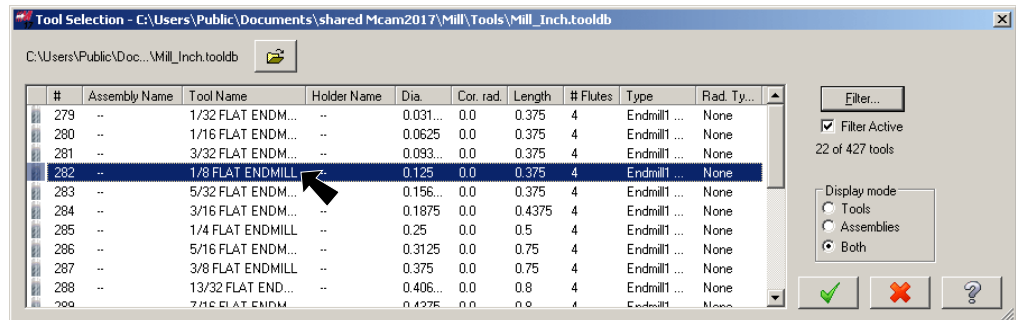

Fig. 96
Step 7. Select **282 1/8 FLAT END-MILL** and click OK **Fig. 96.**